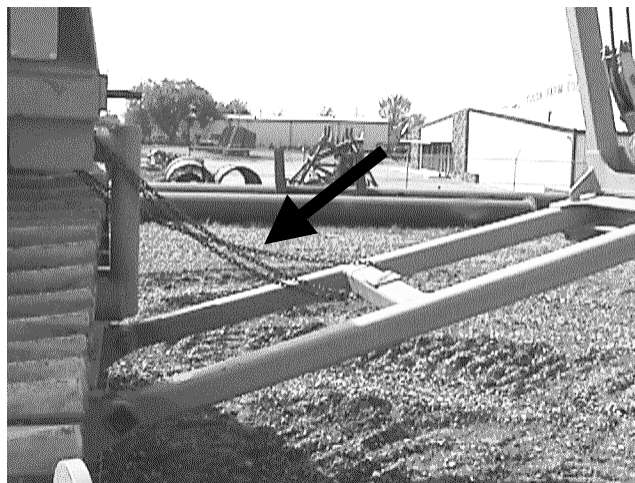

Figure 27: lower folding boom section chained for support.
- b) Chain to winch frame (Figure 27 above in extending section).